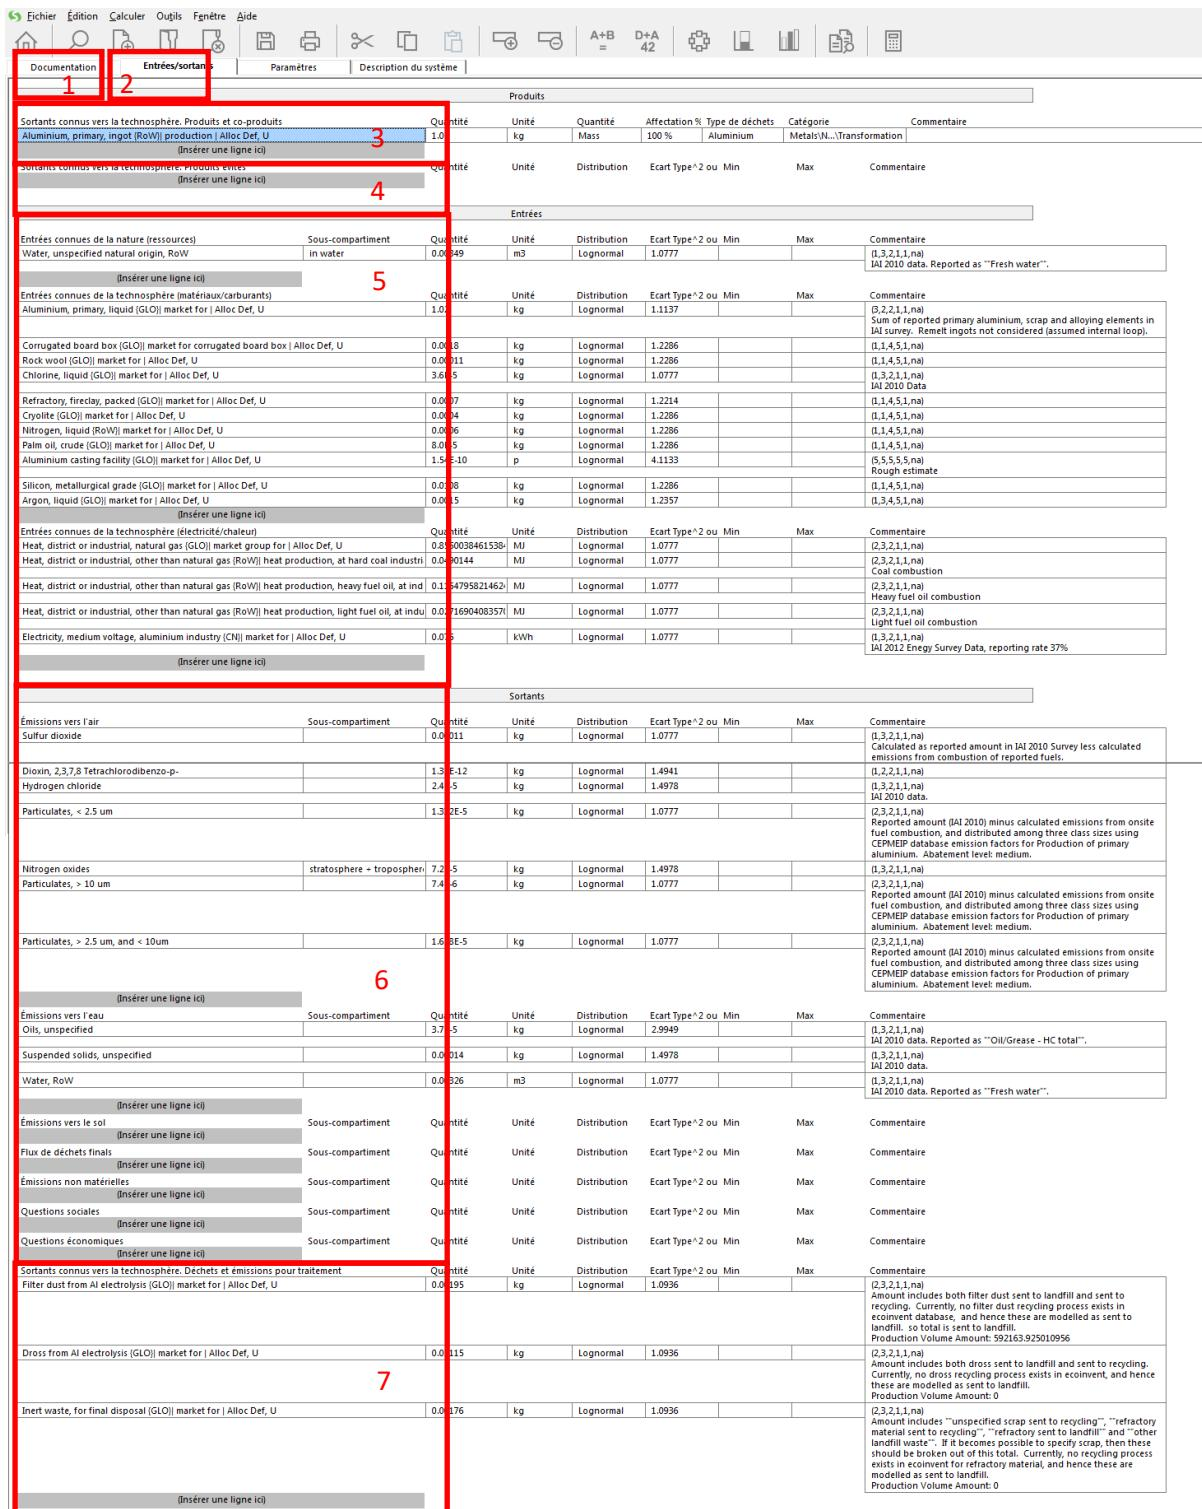

Figure 6 - process example
When you click on a process (Figure 6), e.g. primary aluminium ingot, the window opens in principle with the inputs/outputs of the process (2), i.e. everything that goes in and everything that comes out. This information is important for choosing a process during modelling and, at the end, for interpreting the results. The documentation tab (1) allows us to access the process metadata: how the data was collected, by whom, where, and details of the product (composition, density, etc.).